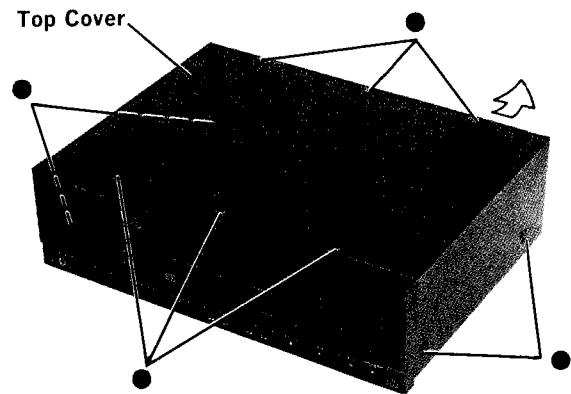

Figure 4 <4図>
- (1) Remove ten screws marked "●" as shown Figure 4.
- (2) Pull out the top cover in the direction of the arrow as shown in Figure 4.